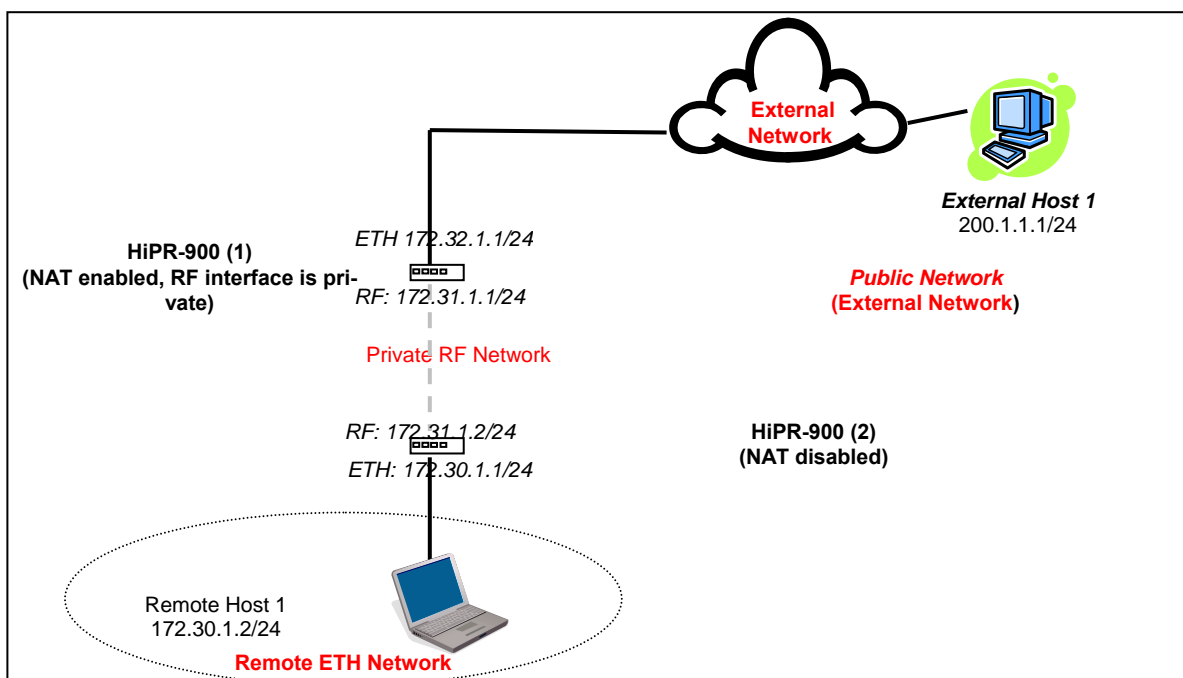

Figure 50 - NAT Enabled on RF interface
In the example Figure 50, the RF interface of the HiPR-900 (1) unit is considered private. NAT is disabled on the HiPR-900 (2) unit. Notice that if the Remote Host sends a packet, the source IP address is not changed by the HiPR-900 (1) unit because the source does not originate from the private network.